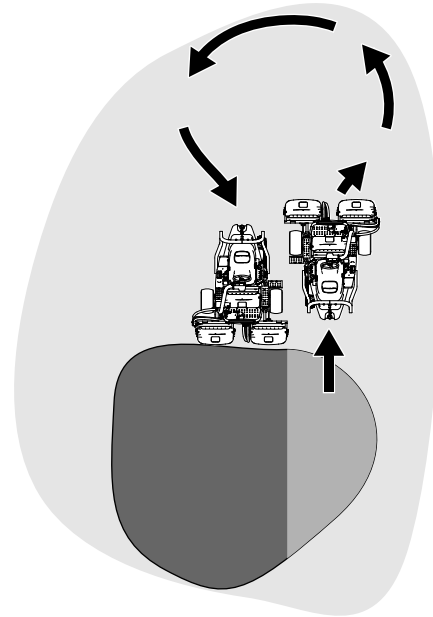

Figure 23
- To cut down on operating time and to ease the lineup for the next pass, momentarily turn the machine in the opposite direction, then turn it in the direction of the uncut portion. This movement is a tear-shaped turn (Figure 23), which quickly lines the machine up for your next pass.